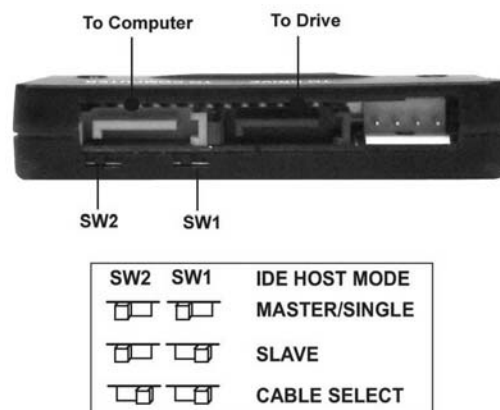

Figure 2: Master/Slave/Cable Select mode configuration
- Depending on the existing IDE devices (if any) on your system, follow the direction below to configure Master/Slave/Cable Select mode of this product (Figure 2).